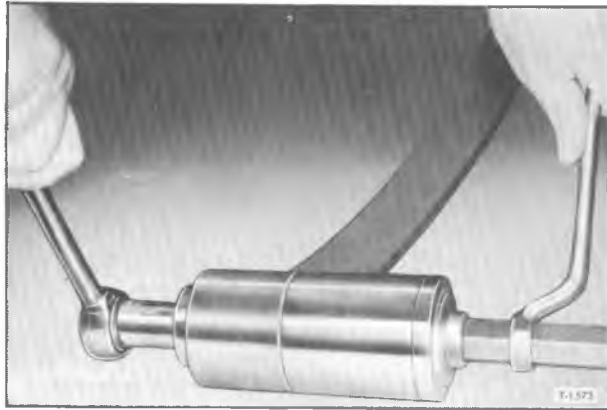
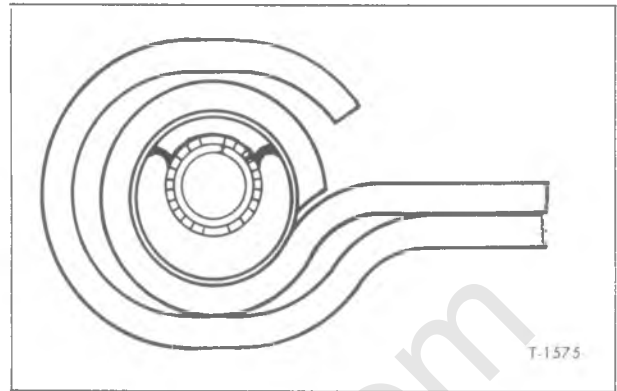

Figure 7—Removing Rubber Type Eye Bushing (PS4500)
Figure 9—Installed Position of Offset Bushing (PS4500)
3. Using J-21978-1 remover adapter J-21058 nut and screw and J-21830-4, -7 receiver and bridge, remove bushing from spring eye (fig. 7).
1. Using installer adapter J-21978-2 and tools called out in Step 3 of "Removal" procedure, install bushing (fig. 7) with offset of bushing at top of spring eye as shown in figure 9.